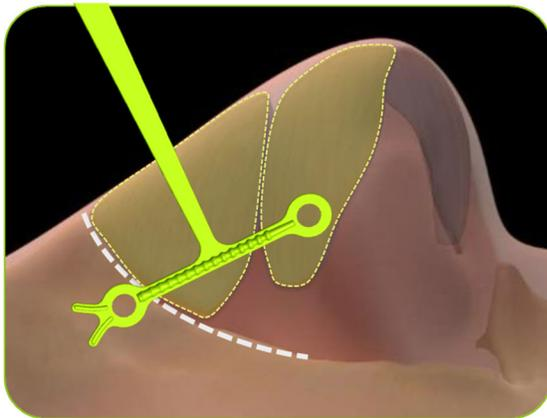

Figure 4: *Implant Positioning Guide* superimposed on upper and lower lateral cartilage
4. Use the *Implant Positioning Guide* and standard surgical pen to mark the surgical trajectory as shown in **Figure 4**. The holes provided on the *Implant Positioning Guide* allow for marking the base of *Implant* forked tip and the spherical end of the atraumatic proximal tip. The distal mark correlates to the final position of the cannula tip prior to *Implant* delivery.